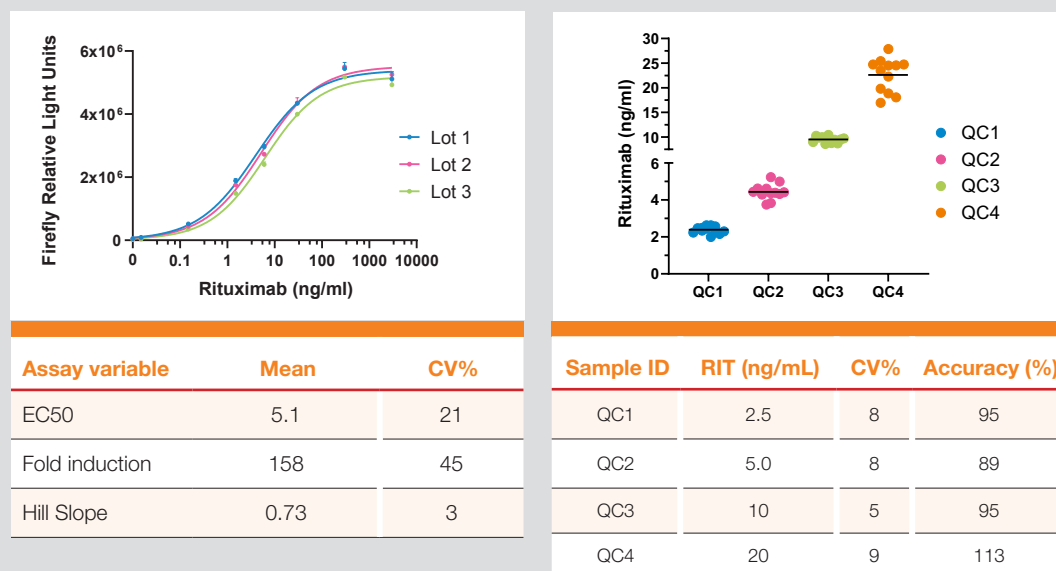

FIG. 6 - LOT-TO-LOT
As shown in figure 6, the precision and accuracy of the technical samples are well within acceptable limits, with CVs generally below 10%, even though the absolute Firefly (FL) signal may vary. These results show that there are only small differences between assays performed on different days or using different batches, which is most probably due to the closely controlled production process and the assay ready format of the cells.